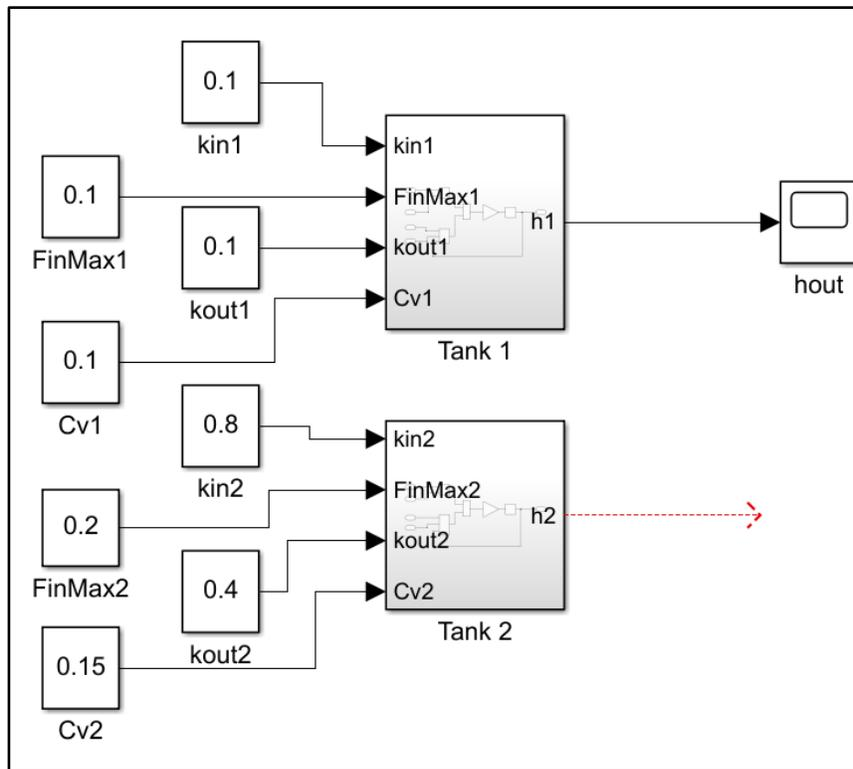

Figure 10. Modifying tank 2 labels and values.
- b) Click on the new subsystem and relabel the blocks, e.g. kin1 to kin2, etc., as well with area of tank 2 with $A_2 = 1.2$. After returning to the main level, modify the values of the constant blocks so that kin2=0.8, FinMax2=0.2, kvout2=0.4, and Cv2=0.15 (see Figure 10).